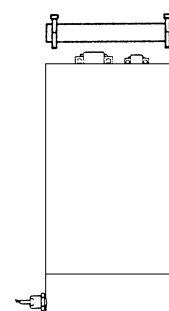

Fig.2
- mount groove nut with locking plate on small measuring spindle (Fig.2)